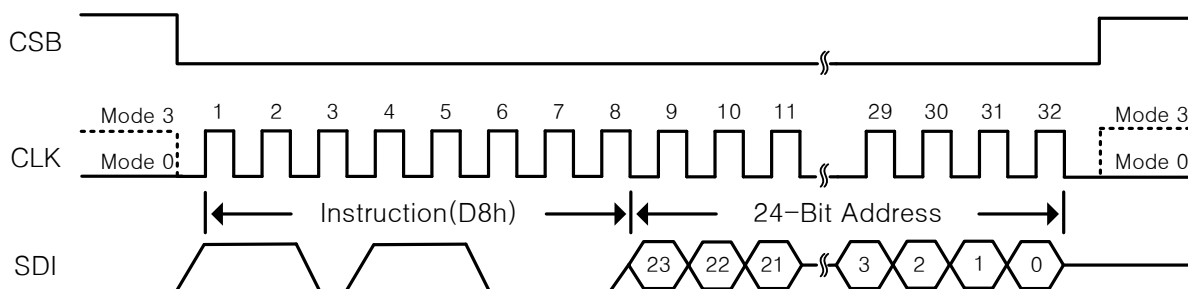

Figure 5. Block Erase Instruction Sequence Diagram
The instruction sequence is shown in Figure 5. Chip Select(CSB) must be driven high after the eighth bit of the last address byte has been latched in, otherwise the Block Erase(BE) is not executed.